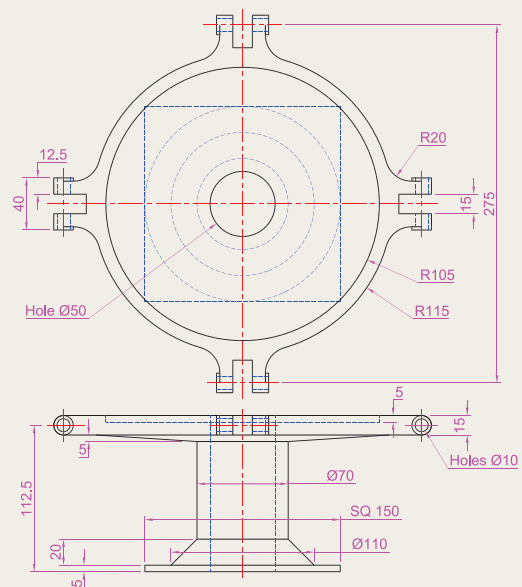
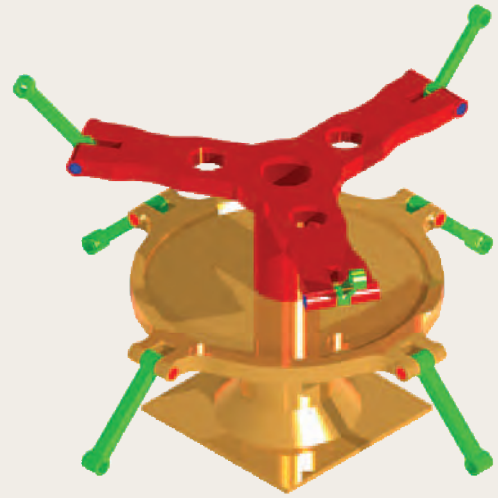

Fig. 18.28 Exercise 4 – first orthographic projection
Fig. 18.31 Exercise 4
4. A more difficult exercise: a rendered 3D model of the parts of an assembly are shown in Fig. 18.31. Working to the details given in the three orthographic projections (Figs. 18.28, 18.29 and 18.30), construct the two parts of the 3D model, place them in suitable positions relative to each other, add lighting and materials and render the model.